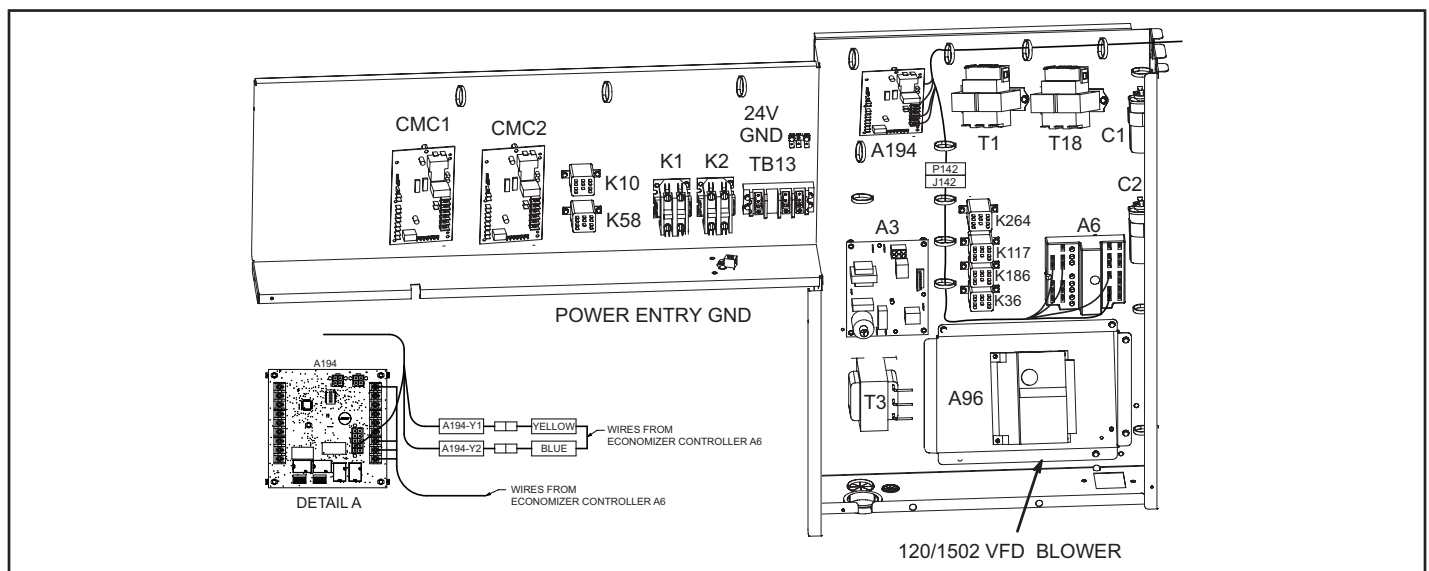

FIGURE 25
- 1 - The economizer control module is located below the actuator for shipping. Relocate the control to the unit control box, see FIGURE 25.
- 2 - Route the control wires to the refrigerant detection board (A194) and connect these wires to the A194 board as following (see FIGURE 25):